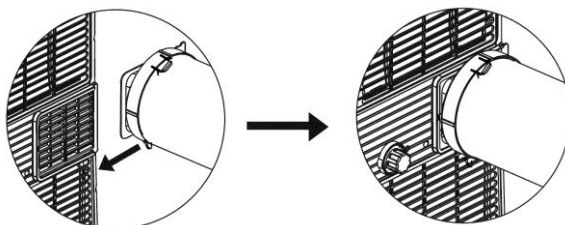

Fig. 2
3. Slide the unit adaptor onto the rear of the air conditioning unit (fig. 2).